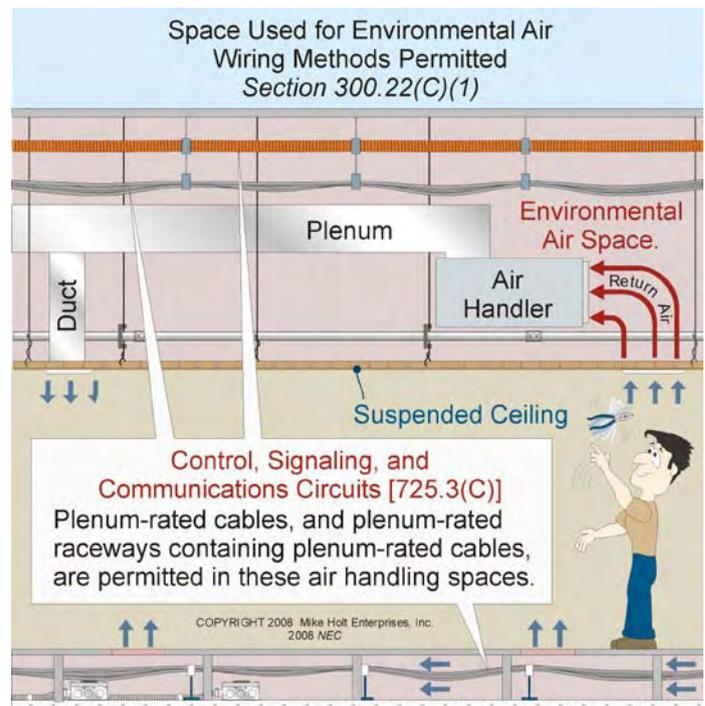

Figure 300-44
- Control, signaling, and communications cables installed in spaces used for environmental air must be suitable for plenum use. **Figure 300-44**
- Sound Systems, 640.9(C) and 725.154(A)